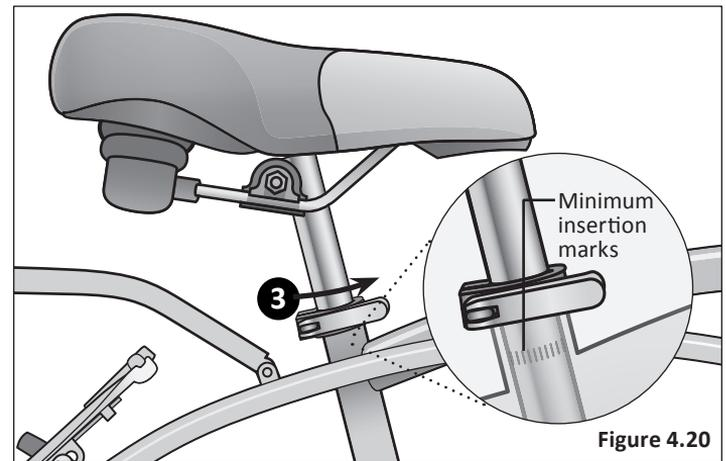

Figure 4.20
- 3 Close the quick-release lever and lock the seat in place. If there is not enough pressure to hold the seat in place open the quick-release lever. With one hand on the quick-release lever and one hand on the adjustment nut, start to hand tighten the adjustment nut until you start to feel some resistance against the fork. **Do not** attempt to tighten by turning the quick-release lever. The quick-release lever is for closing, the adjustment nut is for adjusting the pressure. **Figure 4.20**